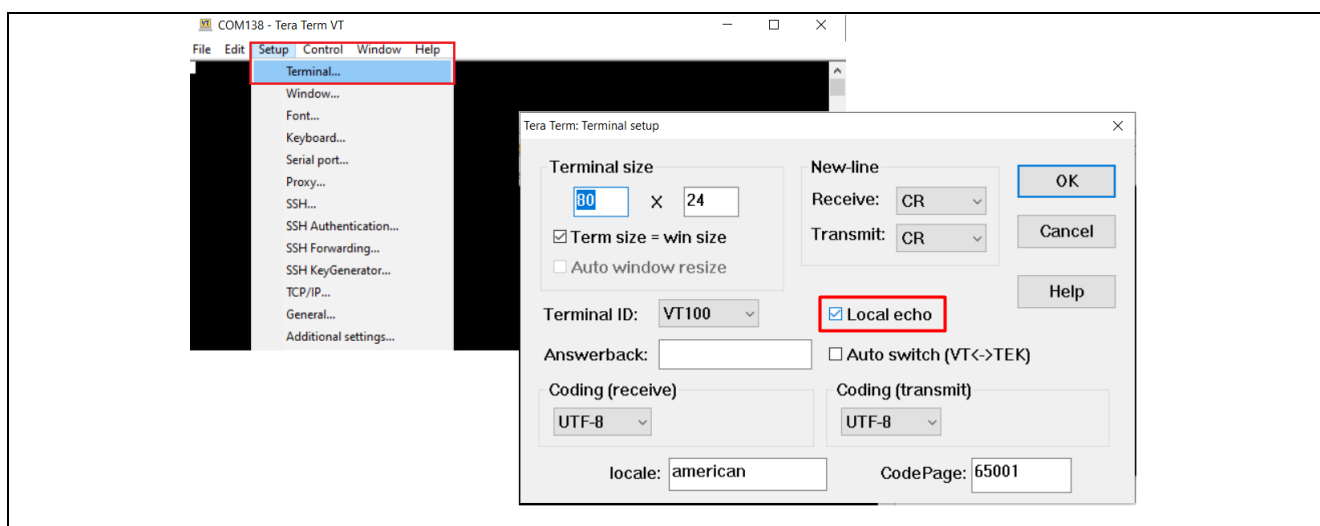

Figure 62. Example of Enable Local echo Tera Term Terminal
2. Select the appropriate J-Link CDC UART Port from the serial connection options to establish communication with the target device (Figure 62).
3. Enable Local Echo by navigating to Setup > Terminal and checking the Local Echo option (Figure 62).